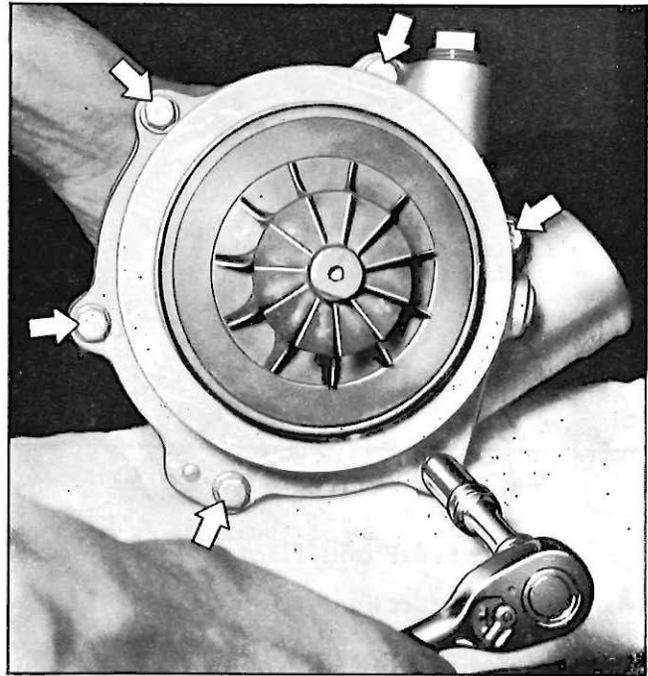

Fig. 11—Compressor Housing Retaining Bolts
5. Remove six retaining bolts (fig. 11) and remove compressor housing and gasket.